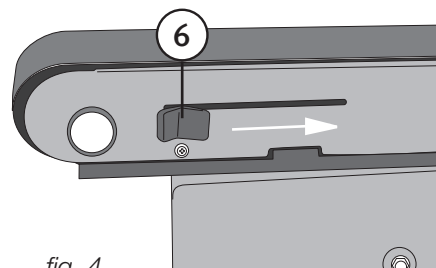

fig. 4
3.2 Fitting/changing the sanding belt (fig. 4, 5, 6)
2. Unscrew the work stop (3).
3. Move the release lever ((6) in fig. 4) in the direction of the arrow to release the roller so that the sanding belt can be removed.
10. Move the release lever ((6) in fig. 4) forwards to tension the belt.